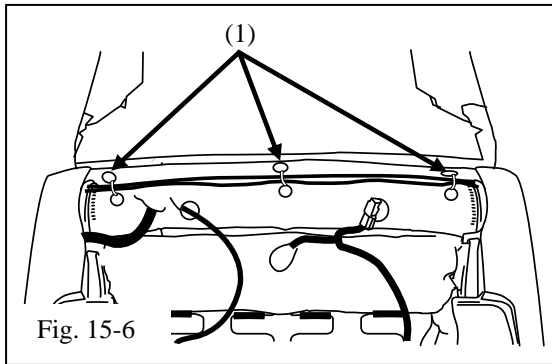

Fig. 15-6
- (g) Reinstall the three hog rings (1) from the bottom of the metal seat structure cover (under protective flap) (Fig. 15-6)